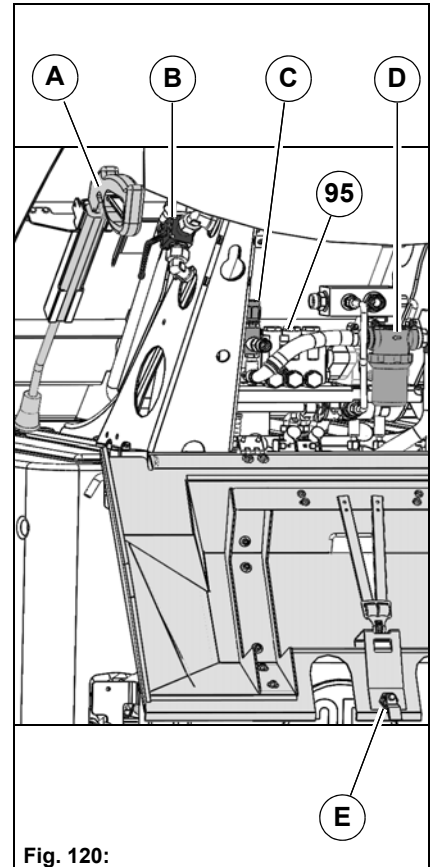

Fig. 120:
- Check the water filter **Fig. 120-D** of the high-pressure cleaner and clean it if necessary.
1. Start the vehicle and drive to the work site. Engage the parking brake. Open the flap **Fig. 120-E**.
2. Set the changeover valve **Fig. 120-B** to position II.
4. Set the pressure controller **Fig. 120-C** to the required working pressure.
5. Take up the lance **Fig. 120-A** with the pressure hose and clean the surface.